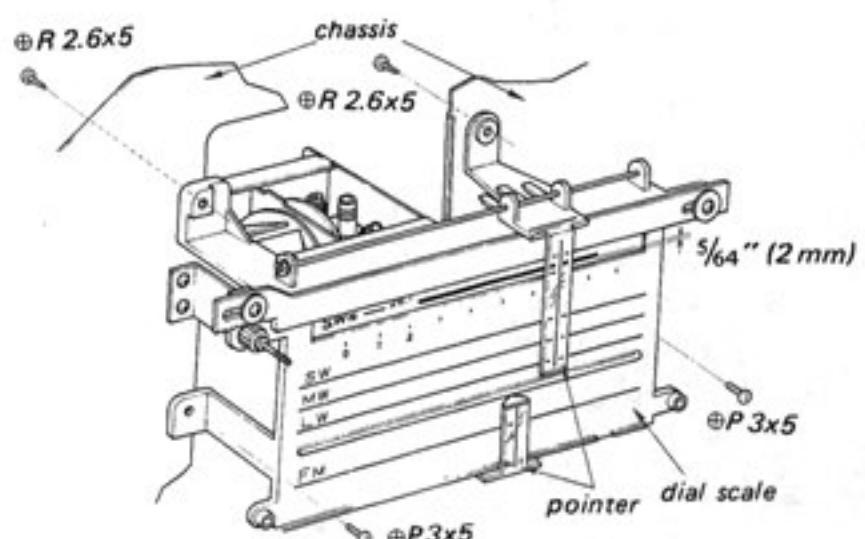

Fig. 2-15
4. Turn the dial drum so that the drum indicates SW10 and the distance between the dial scale and the line on the drum becomes $5/64$ inches (2 mm) as shown in Fig. 2-15.
2. Remove the four screws shown in Fig. 2-15.